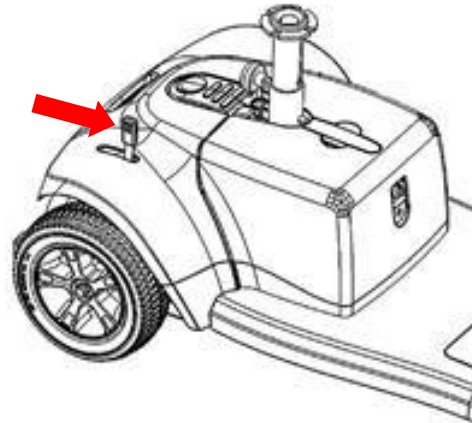

Fig 6.7.2 Freewheel Mode (Open)
2. Freewheel position - is indicated by 'Open' – push the lever forwards for this position. (Fig 6.7.2)